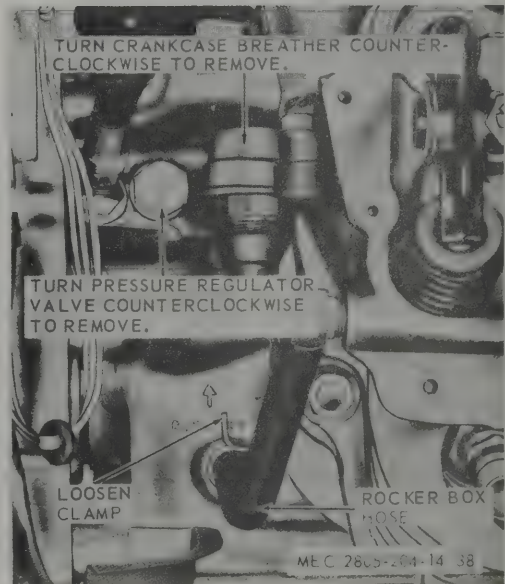

Figure 3-29. Rocker box hoses, pressure regulator valve, and crankcase breather, removal and installation.
(1) Remove right and left shrouds (para 3-17).
(2) Refer to figure 3-29 and remove rocker box hoses.
(1) Refer to figure 3-29 and install rocker box hoses.
(2) Install right and left shrouds (para 3-17).
- (1) Remove top shroud (para 3-17).
- (2) Refer to figure 3-29 and remove regulator valve.
- (1) Refer to figure 3-29 and install valve.
- (2) Install top shroud (para 3-17).
- (2) Refer to figure 3-29 and remove crankcase breather.
- (1) Refer to figure 3-29 and install breather.